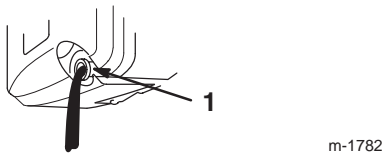

Figure 28
- Tip the lawn mower onto its **left** side, allowing the oil to drain into the drain pan (Fig. 28).